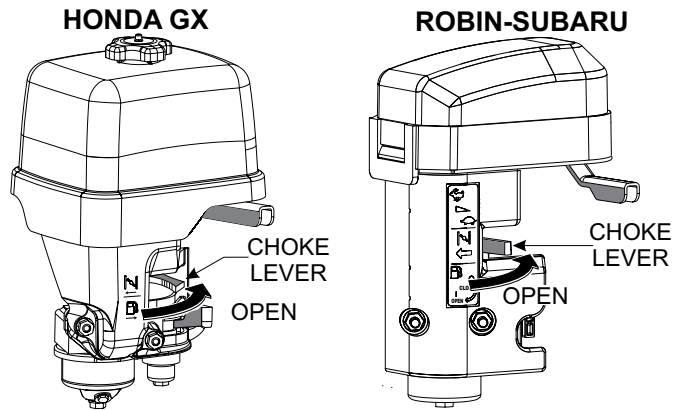

Figure 28. Choke Lever (Open)
6. If starting a warm engine place the **choke lever** (Figure 28) in the "OPEN" position.